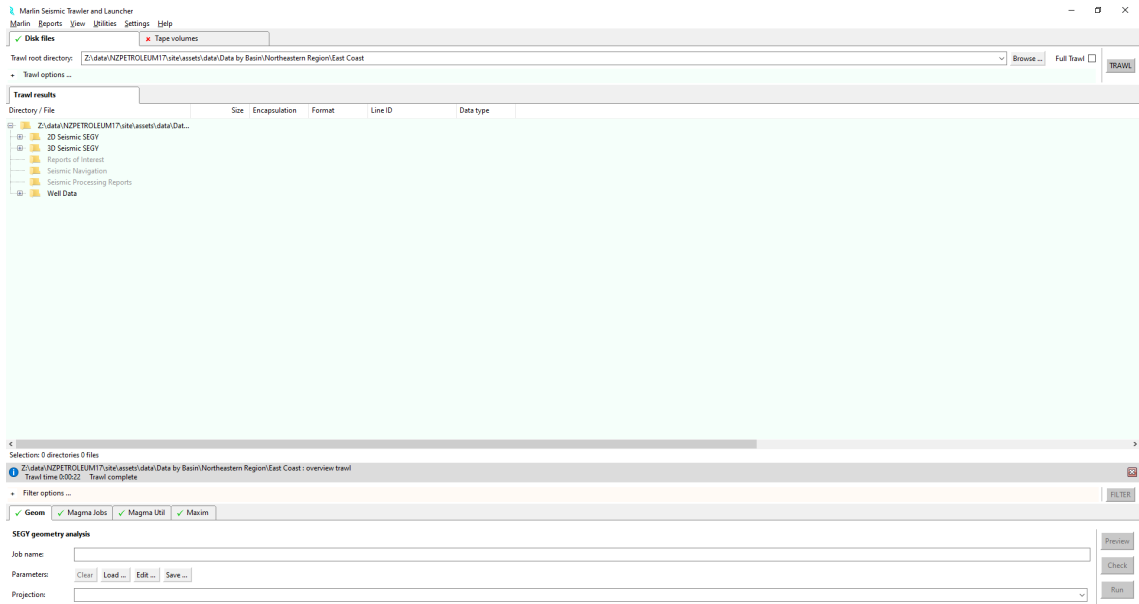

Figure 4-2 Overview trawl results display
3. To expand a sub-directory after running an interactive trawl, click (+). The contents will be revealed and the basic meta-data for each file displayed. See Figure 4-2 above for an example of an expanded sub-directory showing files and their meta-data.